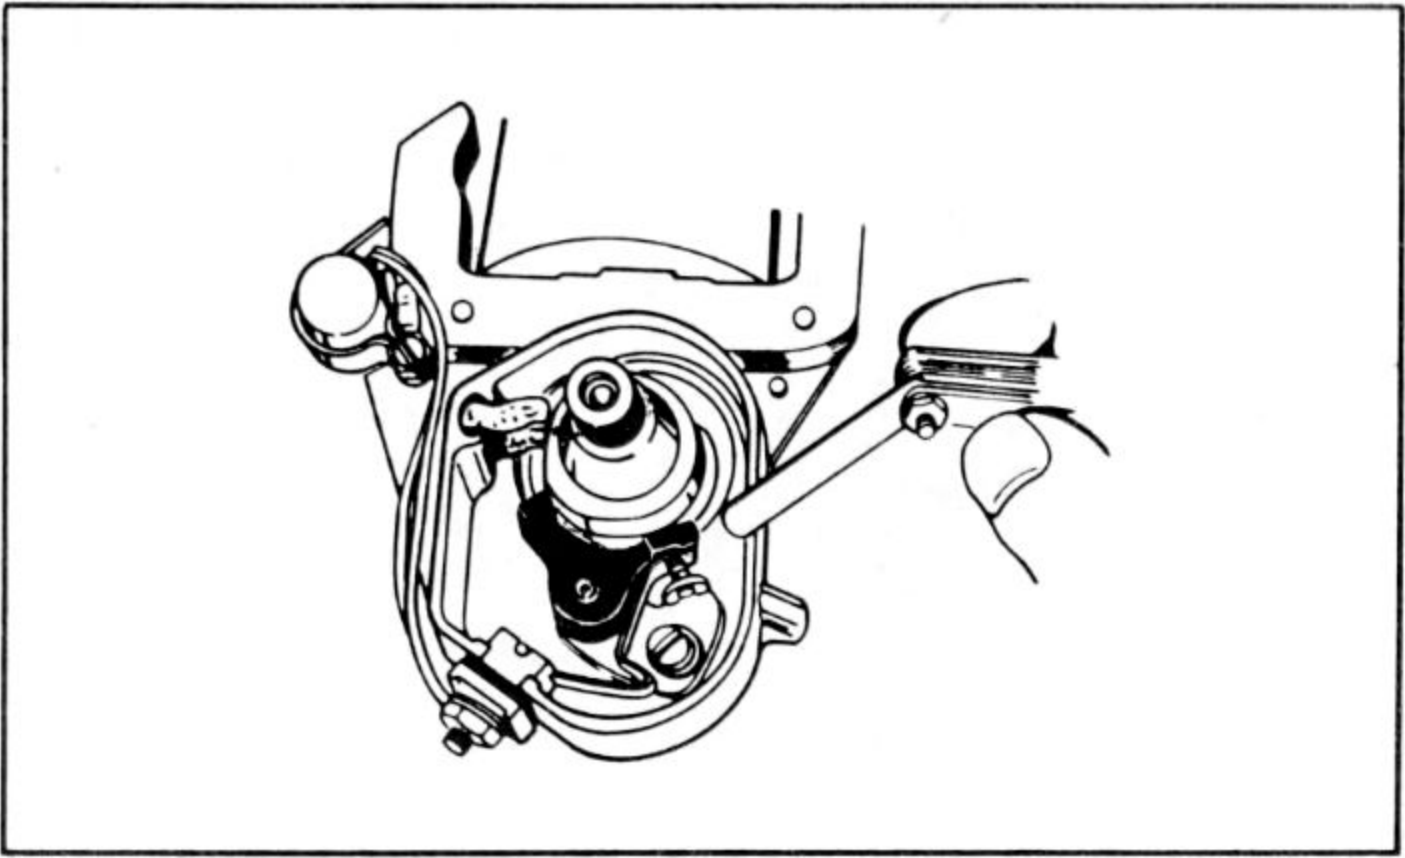

Fig. 2-23. Point gap adjustment on under-flywheel magneto.
Step 4. Using the screw or screwdriver-pry slots provided, move the fixed contact until the 0.019-inch go gauge slips easily between them and the 0.0210-inch no-go gauge forces the moveable contact open against its spring (Fig. 2-23). Gauge blades must be held dead parallel to contact surfaces during this operation.